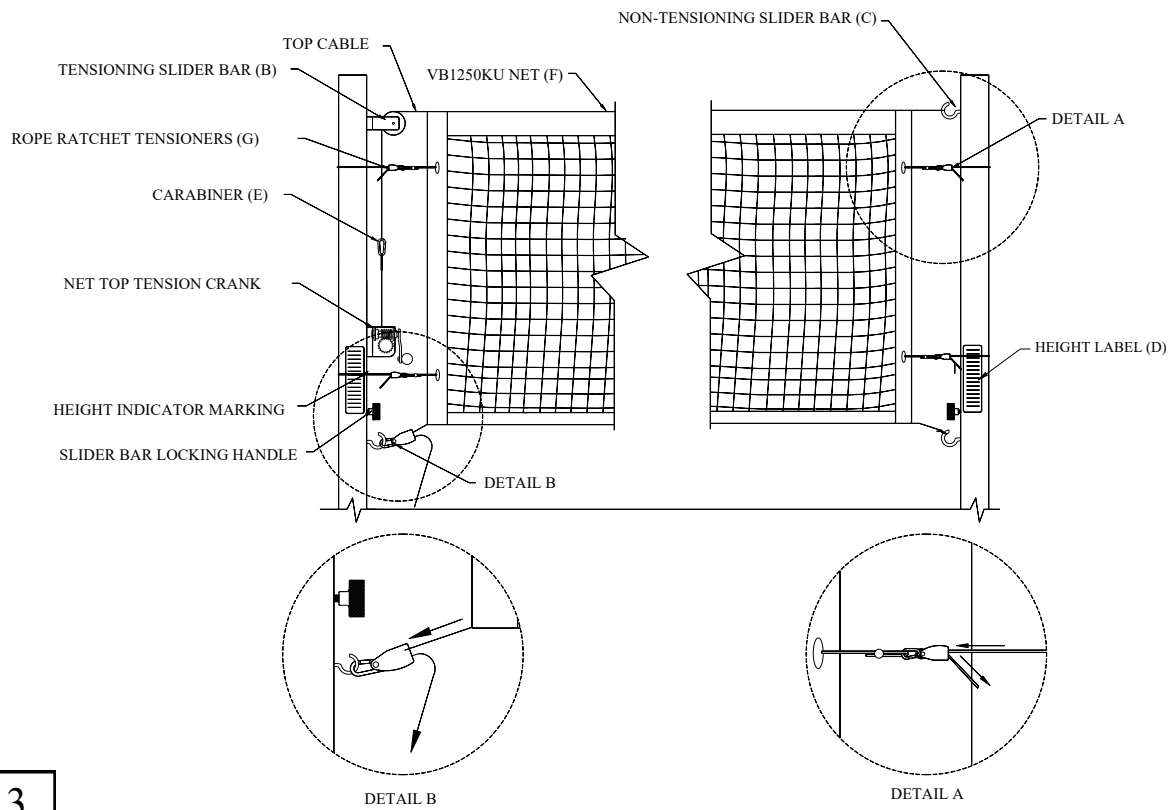

Figure 3
4. Uncoil approximately 24" of the web strap from the winch on the *Cable Tensioning Slider Bar (B)* to allow for net tensioning.
5. Loop the kevlar top rope over the pulley on the *Cable Tensioning Slider Bar (B)* and attach to the spring clip on the end of the winch strap. Attach the other end of the kevlar top rope to the hook at the top of the *Non-Tensioning Slider Bar (C)*. Tension the kevlar top rope with the winch on the *Cable Tensioning Slider Bar (B)*.
6. Attach the loop on one end of the bottom rope to the hook on the bottom of *Non-Tensioning Slider Bar (C)*. Attach the other end of the bottom rope with the spring hook on the bottom *Rope Ratchet Tensioner (G)*. Tension the bottom rope by pulling the rope through the bottom *Rope Ratchet Tensioner (G)*. See Figure 3.
7. Loop two *Rope Ratchet Tensioners (G)* around each *SVB50S Volleyball Standard (A)* and through the eyelets on the *VB1250KU Net (F)* side tapes. Tension the *VB1250KU Net (F)* sides by pulling the end of the ropes. Release the *Rope Ratchet Tensioner (G)* by pressing on the release button. Ratchets should be rotated close to the pole and behind the *VB51P Post Padding (I)* to prevent contact with players. See Figure 3.
8. Once the *VB1250KU Net (F)* is attached it must be adjusted to its desired height. Loosen the winch to release the *VB1250KU Net (F)* tension. Do this before attempting to move the *Cable Tensioning Slider Bar Assembly (B)* and *Non-Tensioning Slider Bar Assembly (C)*. See Figure 3.
9. After the *VB1250KU Net (F)* tension has been released, loosen the locking knobs on the *Cable Tensioning Slider Bar Assembly (B)* and *Non-Tensioning Slider Bar Assembly (C)* to allow free movement up and down. Adjust *VB1250KU Net (F)* to desired height. Once the top of the *VB1250KU Net (F)* is at the desired height under tension tighten the locking knobs. See Figure 3.
10. Once the *VB1250KU Net (F)* is locked and tensioned at the desired height install the *Height Labels (D)*. Line up appropriate line on *Height Label (D)* with the orange height indicator arrow. Use a credit card or similar device to remove air bubbles from *Height Labels (D)*. See Figure 3.
11. Install *VB51P Post Padding (I)* and *VB13 Antennas (J)*.